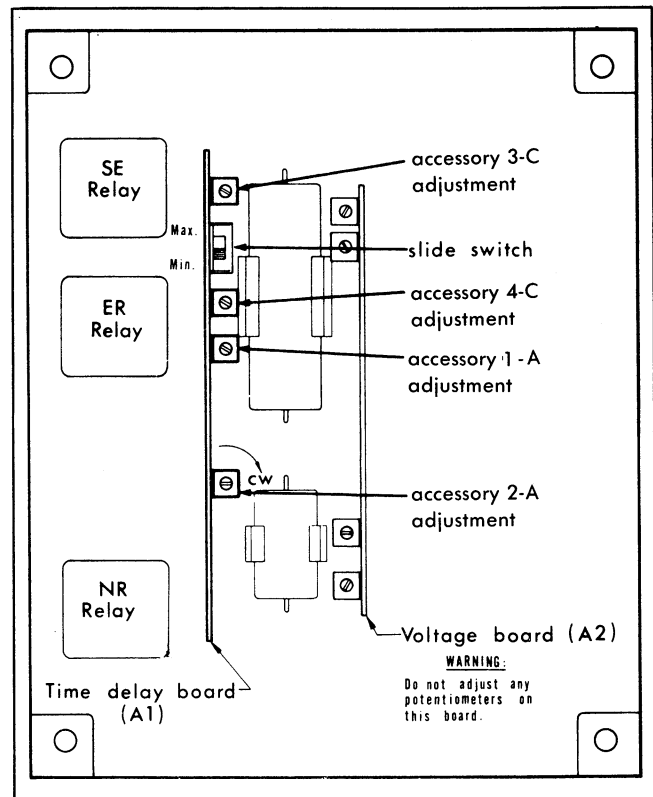

Figure 24. Adjustments
6. Each time delay is adjusted by turning a potentiometer; clockwise to increase, counterclockwise to decrease. See Figure 24. Use the table below to approximate time delays and their corresponding pot.settings. The pots are shown with A1 board vertical.